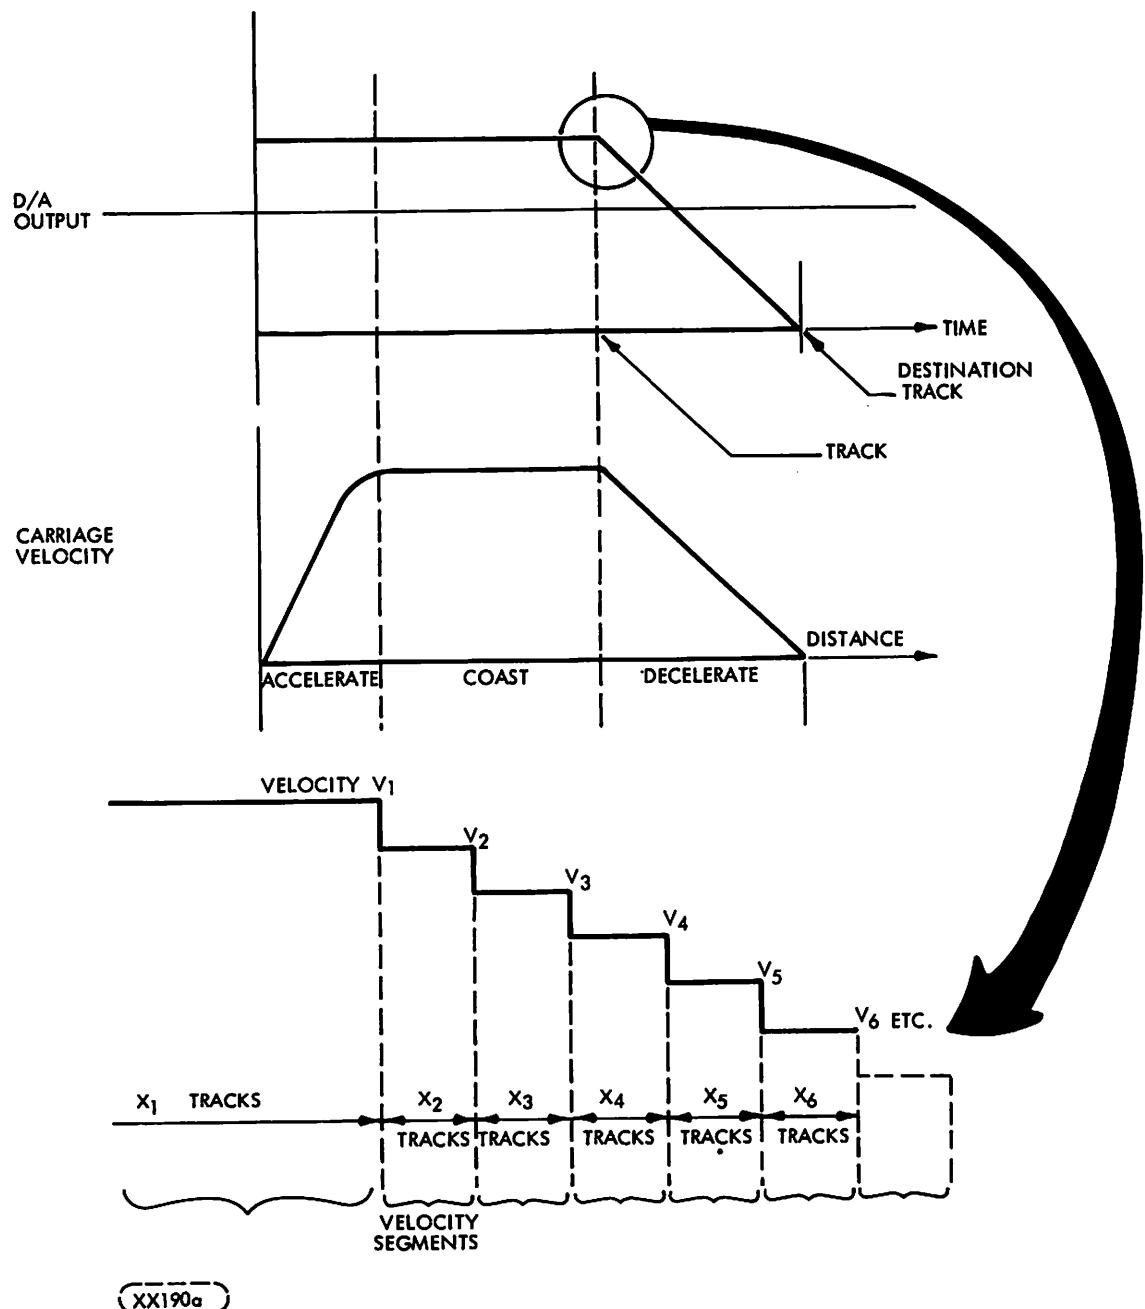

FIGURE 4-31. SEEK VELOCITY PROFILE
11. The microprocessor and associated digital circuits monitor position and number of tracks traversed using cylinder crossing information and change the velocity number in the D/A converter as required to provide the proper velocity profile for the positioning action in process. Figure 4-31 shows a velocity profile for a long seek. Every operation is made up of one or more of the distance/velocity segments like those shown in the expanded section.